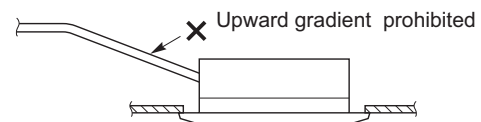

Fig. 2-137
- Do not install the pipe with an upward gradient from the connection port. This will cause the drain water to flow backward and leak when the unit is not operating. (Fig. 2-137)